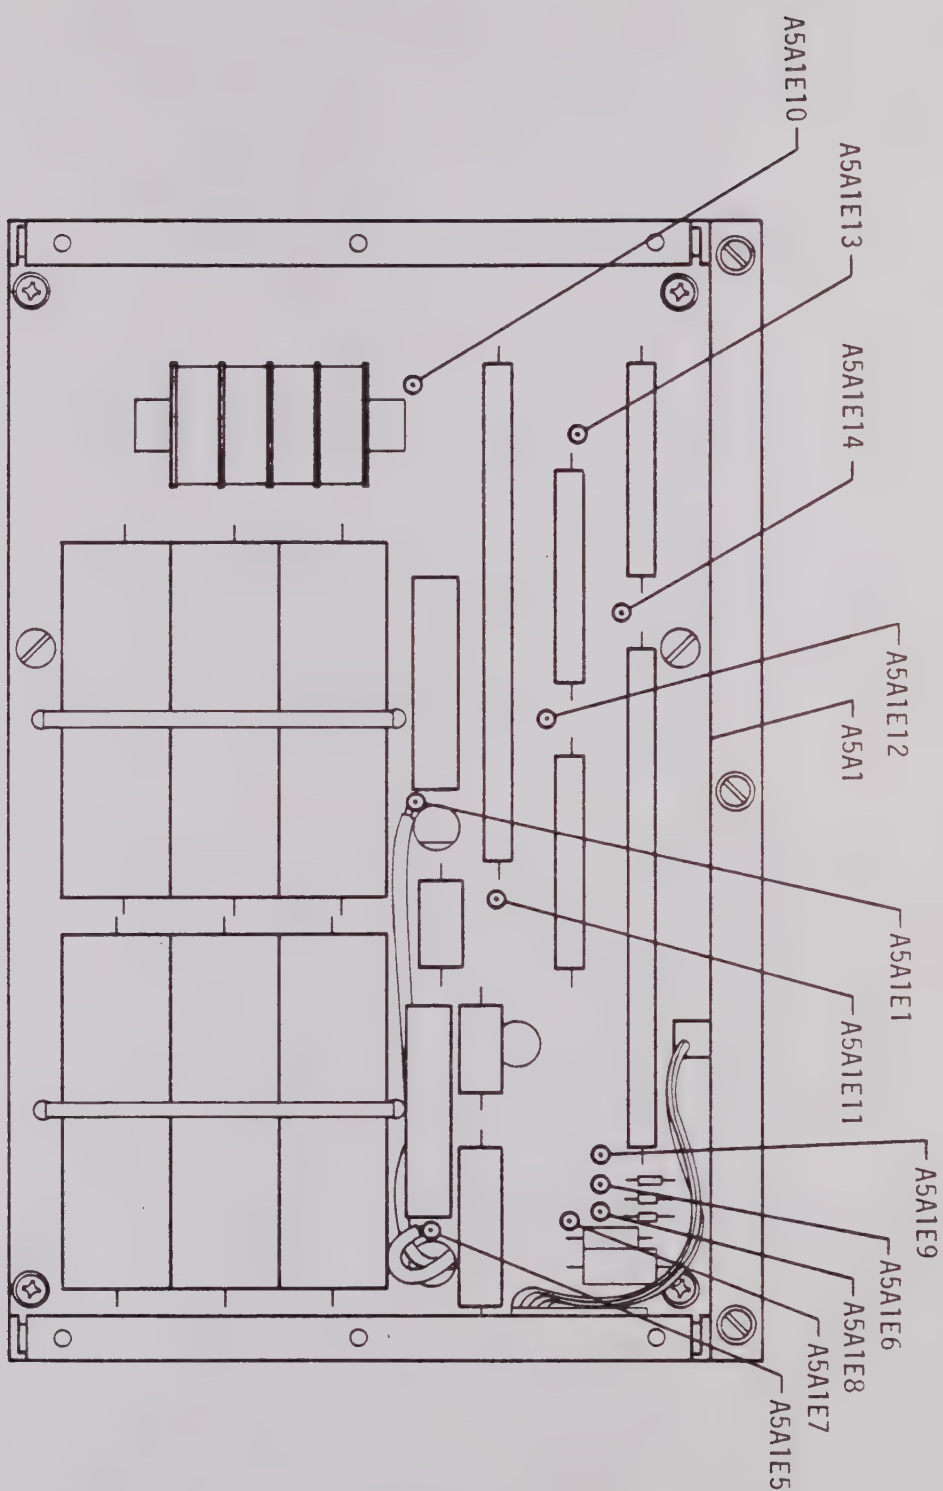

FIGURE 6-7 HIGH VOLTAGE PWB No. 1 (A5A1)
6.3.4.6 High Voltage Module A5 No-Load Check. (See Figure 6-7, 6-8 and Dwg. 113919).
- f. Check the top PCB of the HV Module (Figure 6-7) to make sure the jumpers installed on the "E" terminals agree with the callouts in Table 6-5. If not, remove all old jumpers and install new jumpers